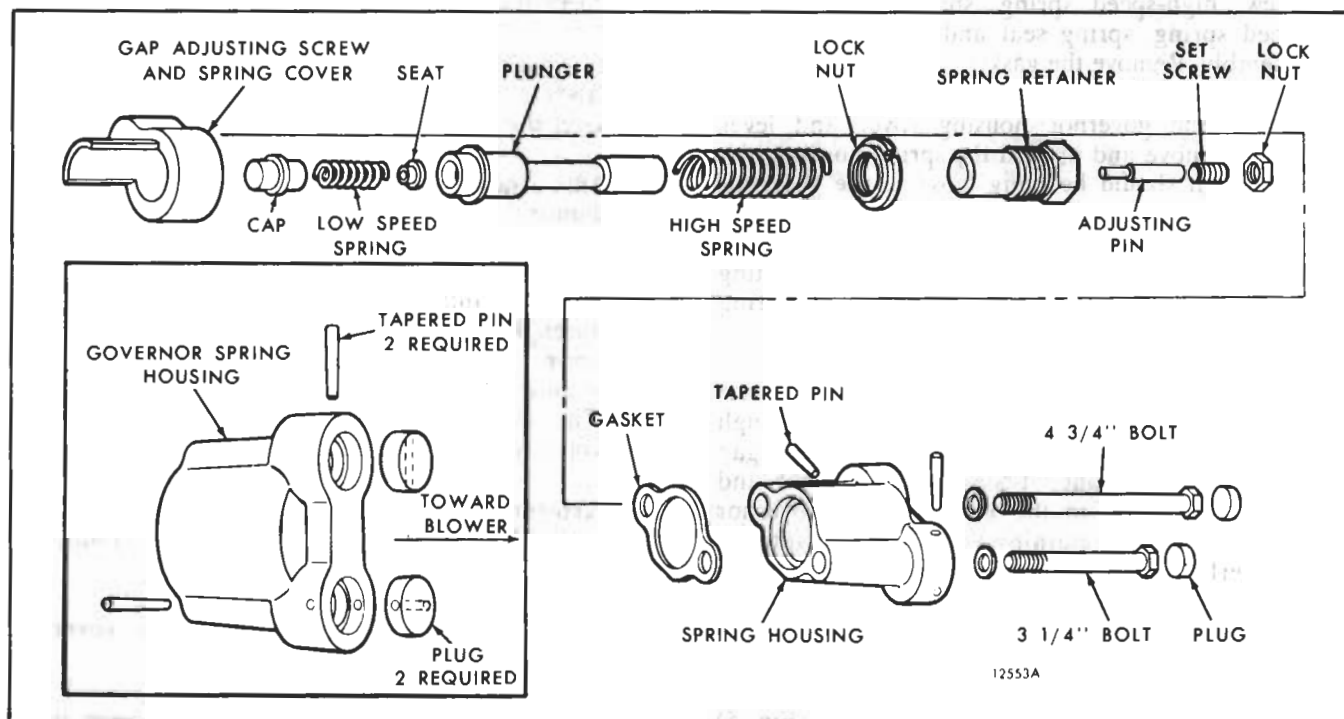

Fig. 5 - Tamper-Resistant Governor Components (Former)
The new governor spring housing has one inch of additional metal resembling two bosses cast on the bolt head of the housing (Figs. 5 and 6). These bosses are counterbored to accept the two bolts which hold the spring housing on the governor housing and to allow for the installation of plugs over the bolt heads. The plugs are secured in the counterbores by tapered pins which, when driven in place, cannot be removed when the governor is mounted on the blower. In order
3. Refer to Figs. 5 and 6 and install the gap adjusting pin and set screw and spring cover and spring assemblies in the governor housing as follows:
- b. On the former tamper-resistant governor, place the gap adjusting screw and spring cover (Fig. 5) in the governor housing with the threaded bolt hole up and in position to receive the spring and plunger assembly.
- c. On the former tamper-resistant governor, insert the 4-3/4" attaching bolt with copper washer through the top bolt hole in the spring housing and thread it into the threaded hole in the former gap adjusting screw and spring cover (Fig. 5). Tighten the bolt.
5. Refer to Fig. 5 and install the tamper-resistant plugs and pins in the counterbores of the spring housing as follows:
5. Refer to Figs. 5 or 6 and install the tamper-resistant plugs and pins in the counterbores of the spring housing as outlined under Step 5, Items a through c above.
**NOTE:** If the spring housing of a former tamper-resistant governor (Fig. 5) is removed for any reason, the gap adjusting screw and spring cover will fall into the governor housing. Therefore, it is important to remove the governor cover and lever assembly and check to make sure that the gap adjusting screw and spring cover is secured by the 5/16"-18 x 4-3/4" bolt after the spring housing is re-installed.